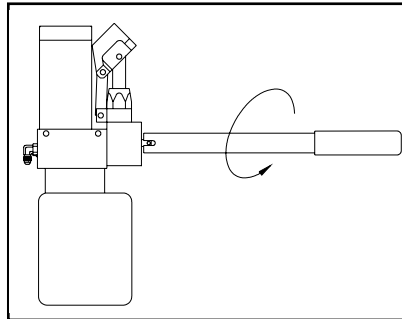

FIGURE 2-10: DEPLOY OR LOWER PLATFORM
- 3) Refer to **Figure 2-10**. Turn valve 1/4 turn COUNTER-CLOCKWISE to begin lowering platform. When platform reaches vehicle interior floor level turn valve CLOCKWISE to close. **DO NOT OVER-TIGHTEN VALVE**. Do not lower platform below vehicle floor level. The rear edge of bridgeplate must rest flat against vehicle floor.